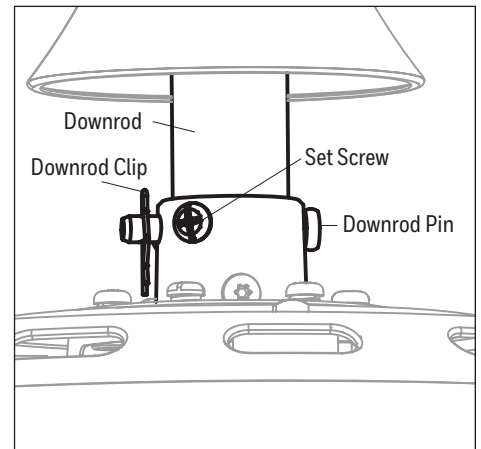

Figure 3.3
3. Slide the downrod into the yoke of the motor assembly, align the holes, then re-install the downrod pin and downrod clip. Secure with the two set screws and slide the yoke cover down until it rests on top of the motor assembly (Figure 3.3).